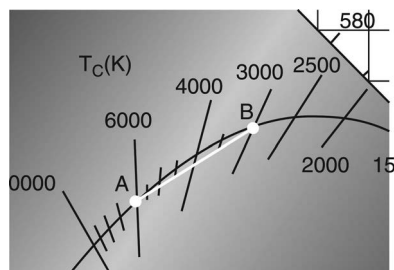

FIGURE 7.5
- Any LED that relies on two white phosphor LEDs to create color temperatures between daylight and tungsten introduces a slight shift toward magenta in the middle of the range (Figure 7.5). Adding green LEDs to the mix enables the light to compensate as necessary to stay on the black body locus.